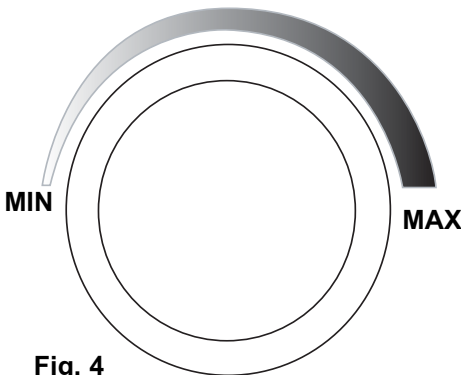

Fig. 4
- Your refrigerator has one vent control for regulating the temperature in the freezer compartment (See Fig.4.). The temperature control is located on the center of the freezer compartment’s interior back panel.